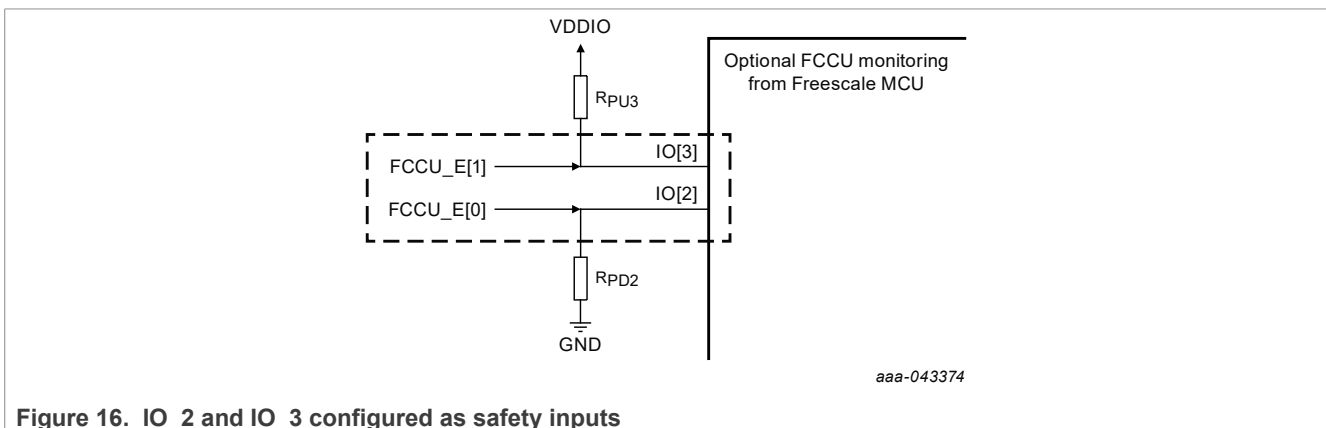

Figure 16. IO\_2 and IO\_3 configured as safety inputs
If the application has to pass J2962 certification for American automotive market, a ferrite bead (FB) on the  $V_{BAT}$  line is recommended to pass the radiated emission test. The FS6500 and FS4500 power connection is shown in Figure 16.